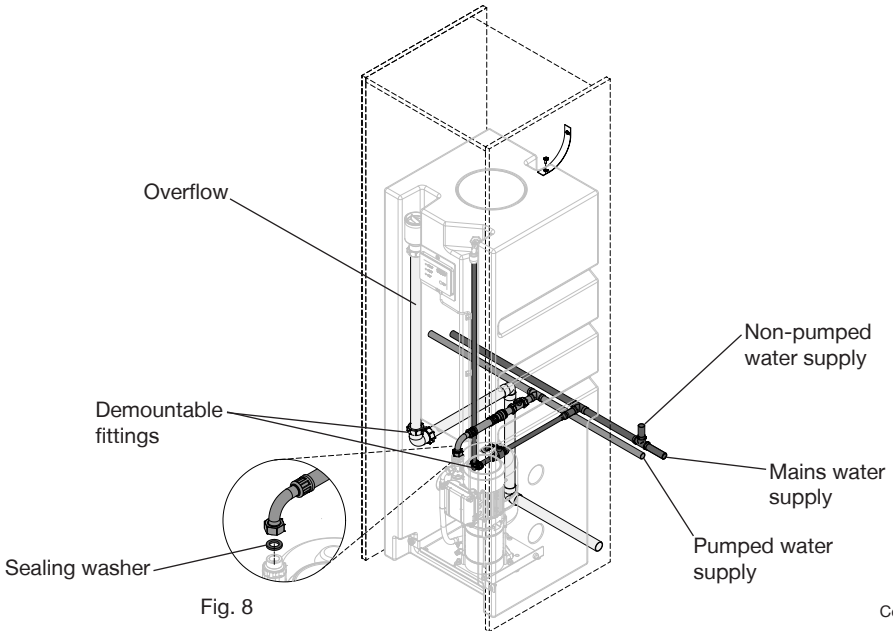

Fig. 8
Ensure there is a demountable joint in the pipe to allow the removal of the iBoost if needed (see Fig. 8).
4.13 **Connection to overflow/warning pipe:** The overflow fitting is designed to use 1 ¼ " (35 mm OD) plastic waste pipe. Ensure there is a demountable joint in the pipe to allow the removal of the iBoost if needed (see Fig. 8). The overflow must be free to vent to atmosphere either via a tundish or a dedicated external pipe.
Slide the iBoost into position in front of the services leaving approximately 20 mm gap between the iBoost and the wall behind. Connect the services using isolation valves and demountable fittings (push-fit or compression) where shown in Fig. 8. The positioning of these fittings allow the iBoost to be removed without cutting pipes or draining the system.